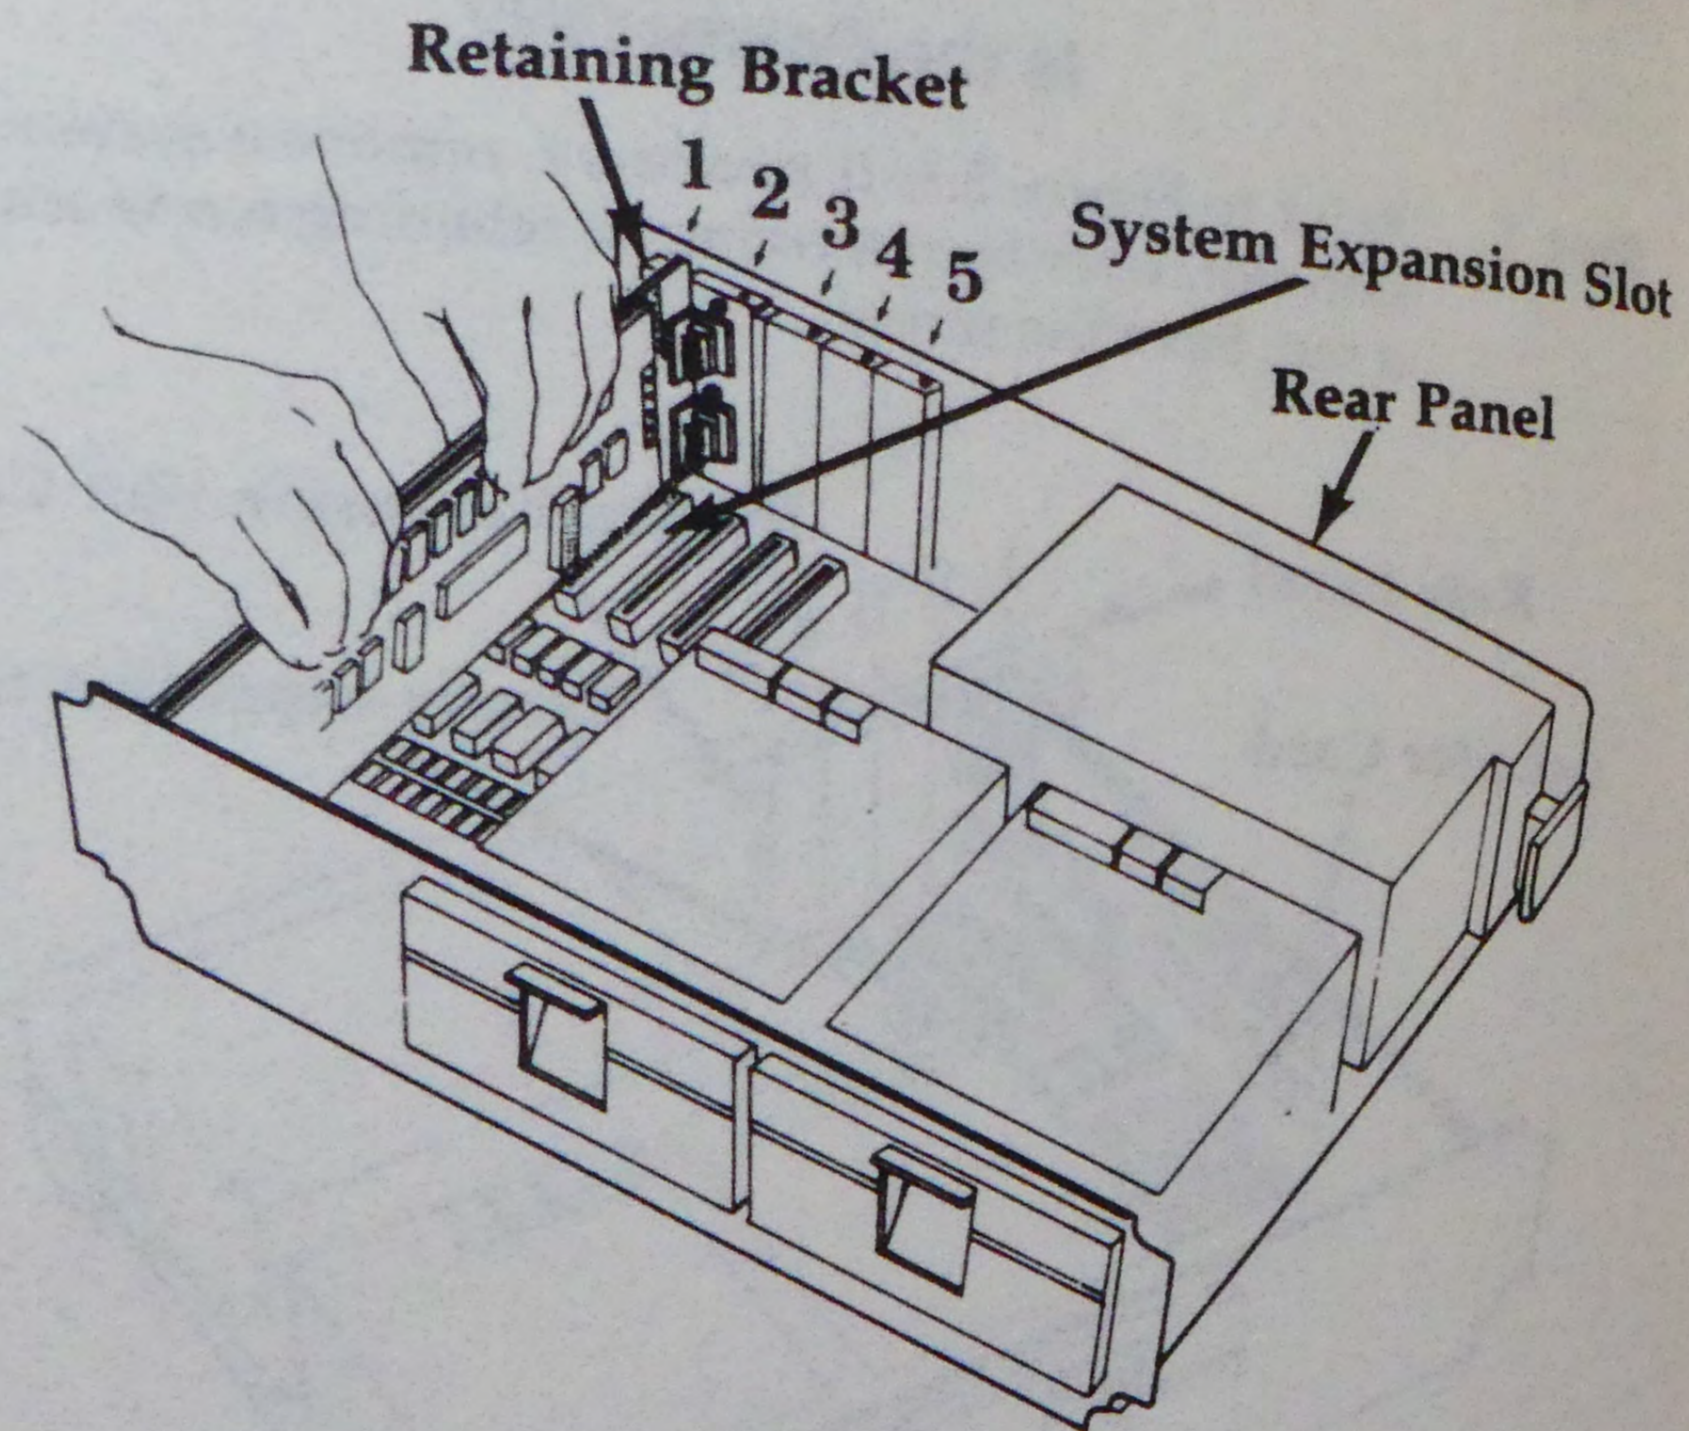

Figure 5.2
Step 3. Hold the Modular Graphics Card by its top corners and slide it into the system unit as shown in Figure 5.2. The front edge of the card fits into the groove in the plastic adapter guide. Make sure that the Modular Graphics Card is *fully* seated in the expansion slot.